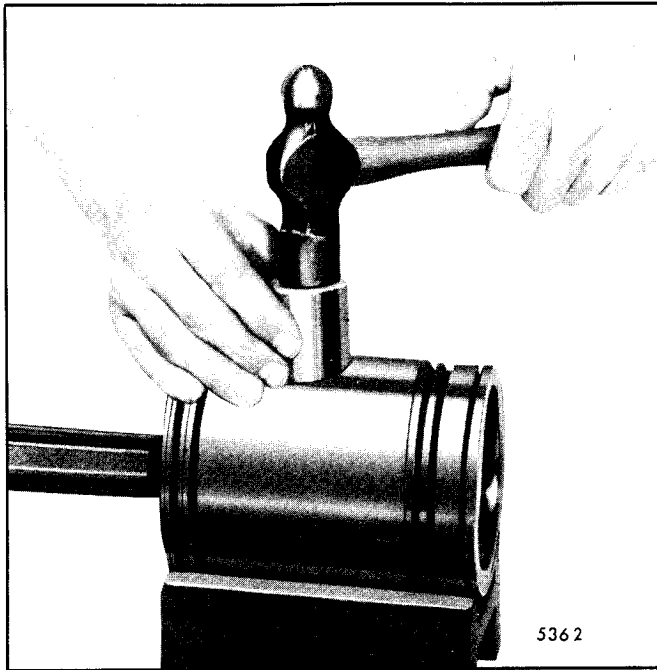

Fig. 16 - Installing Piston Pin Retainer using Tool J 23762-A
9. Place a new piston pin retainer in position. Then, place the crowned end of installer J 23762-A against the retainer and strike the tool just hard enough to deflect the retainer and seat it evenly in the piston (Fig. 16).